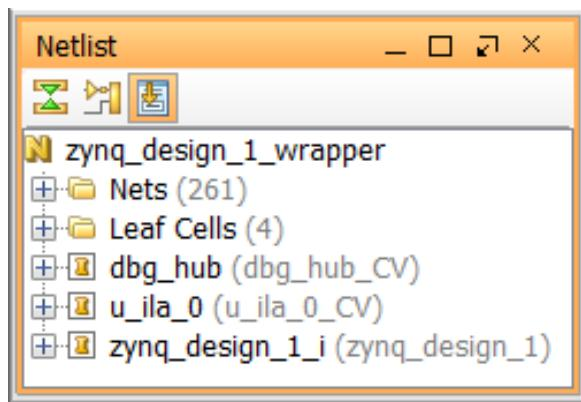

Figure 31: Implemented Design
7. In the implemented design, go to the **Netlist** window, as displayed in Figure 31, to see the inserted ILA and Debug Hub (dbg_hub) cores in the design () .